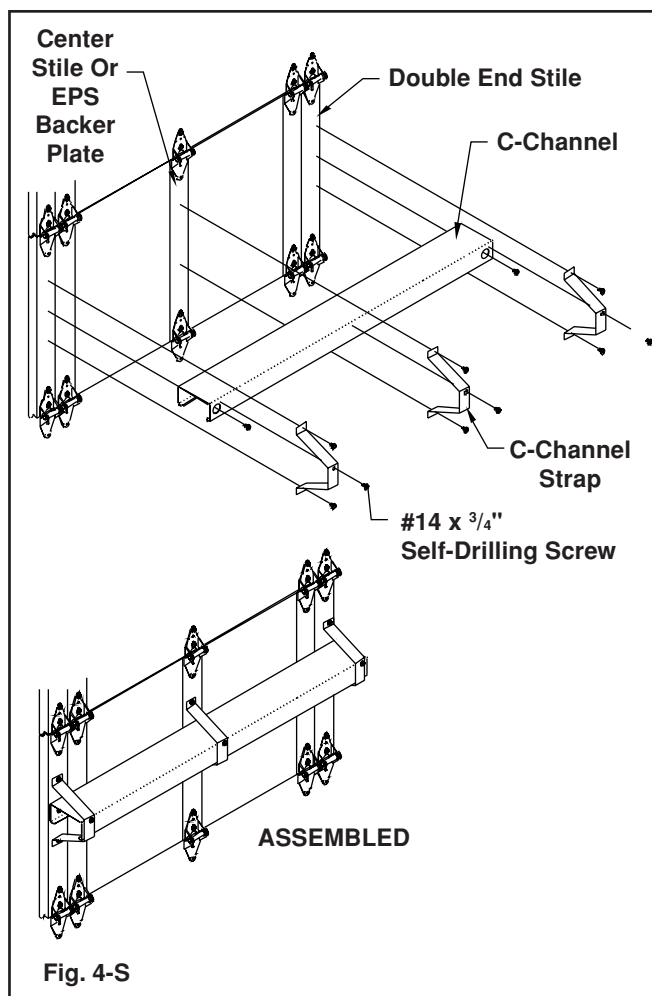

Fig. 4-S
Before installation of hinges, tear the liner off the adhesive on the EPS backer plates and apply vertically across the section at each center hinge location. (FIG. 4-S)
Step 1: Vertical Track. Center bottom section in opening on inside of garage. Level section by blocking up low side. (FIG. 2-T) Leave block until door is completed. Install the vertical track on opposite side of where block was placed, over the two rollers of the bottom section with a twisting motion as in Figure 3-T. Raise track $\frac{1}{2}$ " off the floor, Figure 2-T, and screw $\frac{5}{16}$ " x $1\frac{5}{8}$ " lags (wood jambs), or self-drilling screws (steel jambs) through bottom mounting bracket. (FIG. 4-T) Adjust track sideways to allow $\frac{1}{8}$ " end play in roller—about $\frac{1}{4}$ " from edge of track to edge of door. (FIG. 2-T) Plum vertical track and put at least two lags or sheet metal screws in the mounting brackets at the top of the door. Final adjustment will be made after door is stacked. Measure from the top of the vertical track to the top of the bottom section and set the opposite track at exact same height repeating above procedure. (FIG. 2-T) Since the bottom section is level, then the vertical tracks must be level. **Make sure bottom rollers do not come out of the bottom of the track.**